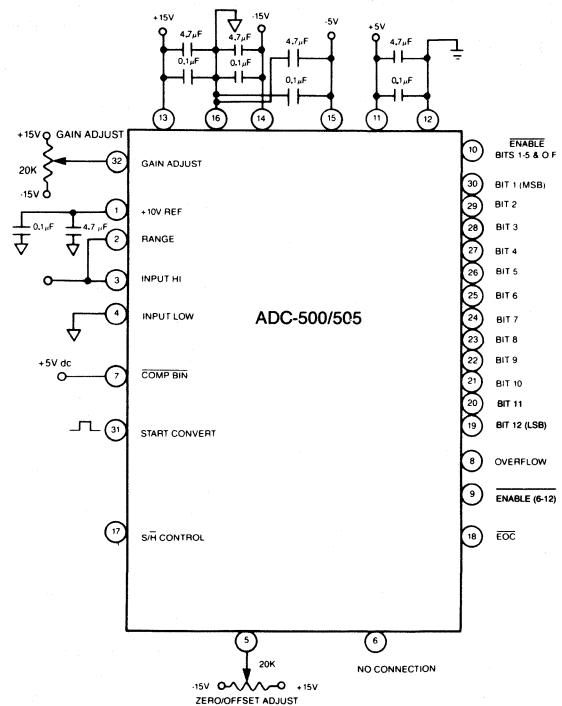

Figure 3. ADC-500/505 Calibration Circuit
1. Connect the converter per Figure 3 and Table 2 for the appropriate full-scale range (FSR). Apply a pulse of 50 nanoseconds minimum to the START CONVERT input (pin 31) at a rate of 500 kHz. This rate chosen to reduce flicker if LED's are used on the outputs for calibration purposes.